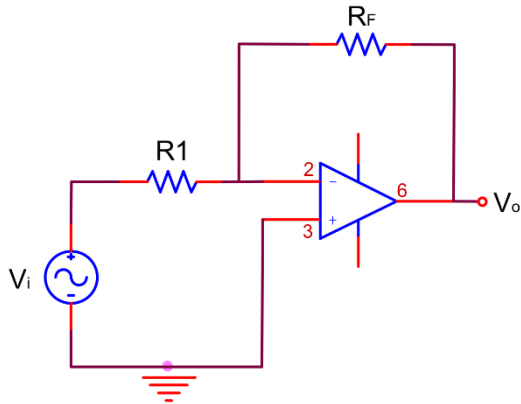

Figure 9.2
1. For the circuit in Figure 9.2 and Figure 9.3 Calculate V_o as a function of V_i and R_F .